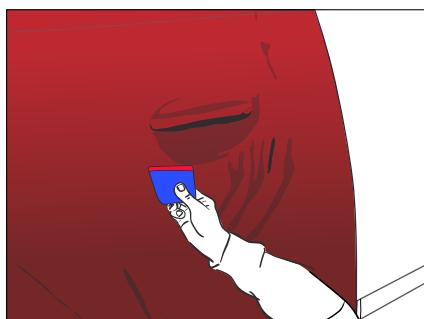

Figure 20
- › Stretch the film over the door handles and, using a squeegee, apply the film all around the door handles. (FIG. 20)